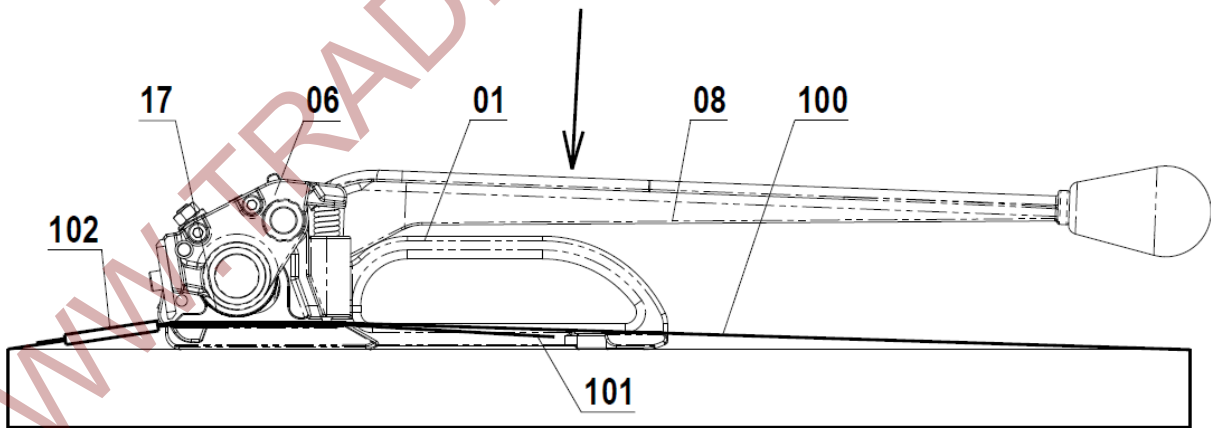

Fig. 2
1. Based on type of the **Seal 102** used (open or closed), place the seal on the strap accordingly. Press down on **Tension Handle 08** to raise **Frame 06**. Load both straps **100** and **101** under **Feed Wheel 17** and release the **Tension Handle 08** as shown on Fig. 2